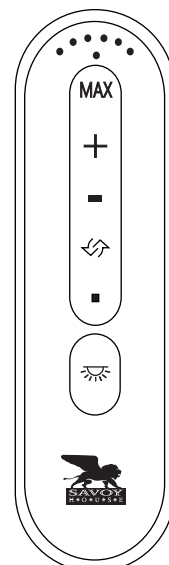

Figure 14
**Step 4.** Securely tighten the two light kit mounting screws previously loosened and the one previously removed. (Fig. 14)
Restore power to ceiling fan and test for proper operation. (Fig. 14)